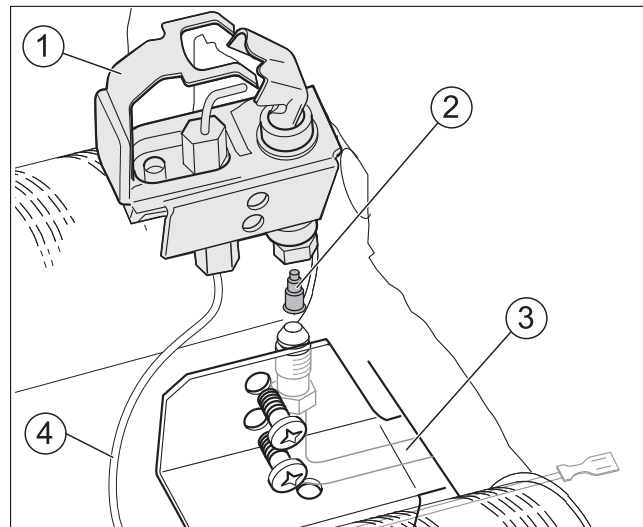

Fig. 35 Pilot burner
- Unscrew pilot burner unit (→ Fig. 35 [1]) from burner.